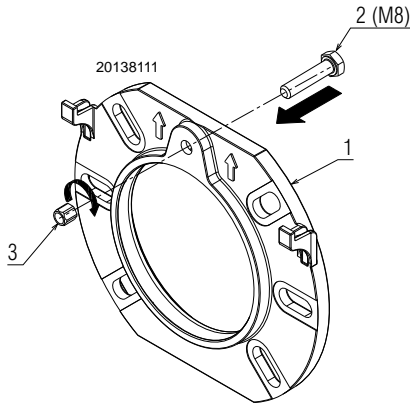

Fig. 6
- Insert the screw 2) in the flange 1), and tighten the nut 3)(Fig. 6);
The Manufacturer recommends the use of a good quality fuel filter on the tank (Fig. 6), and a secondary filter (60µ for light oil and 15µ for kerosene) to protect the burner pump and nozzle from contamination.
On the system in Fig. 6 switch on the burner and wait for the priming. Should lockout occur prior to the arrival of the fuel, await at least 20 seconds before repeating the operation.